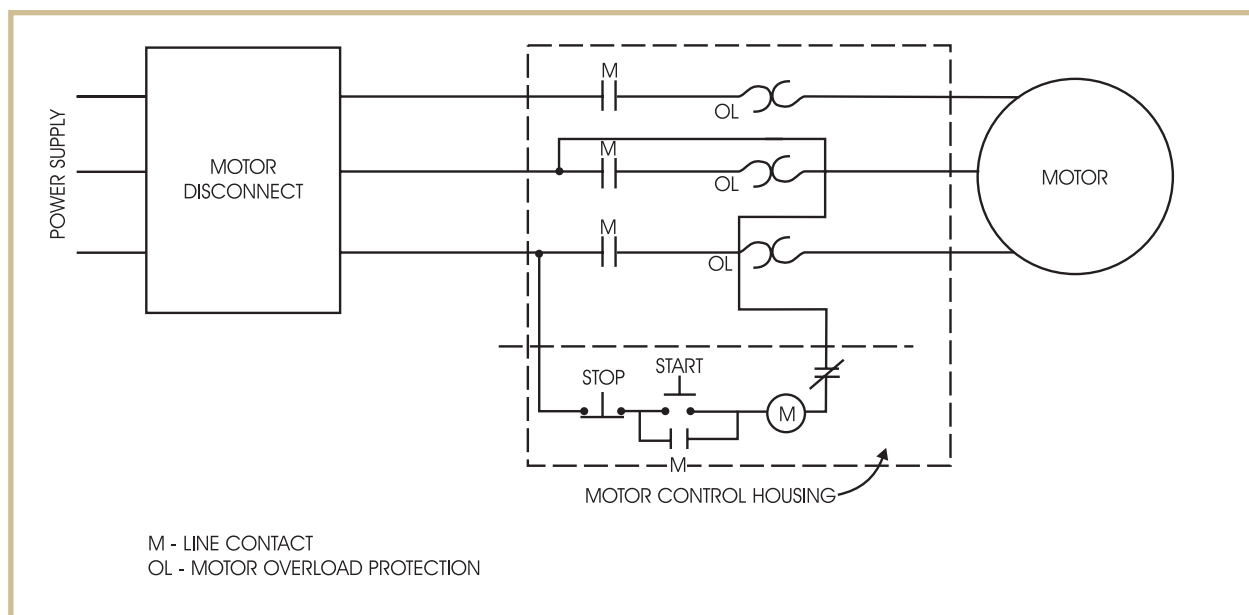

FIGURE 11—Schematic of Motor Control with Contactor and Overload Relays
Figure 11 is a basic schematic of a motor control drawn to meet *NEC* requirements. It shows a three-phase motor with a three-phase power supply. The power supply has the applicable overcurrent protection and disconnect as required by the *NEC*. The dashed-line box represents the motor control (shown as *M* in a circle). It consists of a contactor and overload relays. The contactor is noted by the four normally open contact points (*M*), one normally open contact in each phase conductor and one normally open contact that provides an interlock or shunt to the start contact. When the coil is energized, these normally open contacts operate (close). The motor control also includes an overload relay (*OL*) in each of the phases. Each overload relay has a normally closed contact; that is, under normal conditions, it's in a closed state.
3. Refer to the motor control circuit in **Figure 11**. Why is there a contact in parallel with the start button?